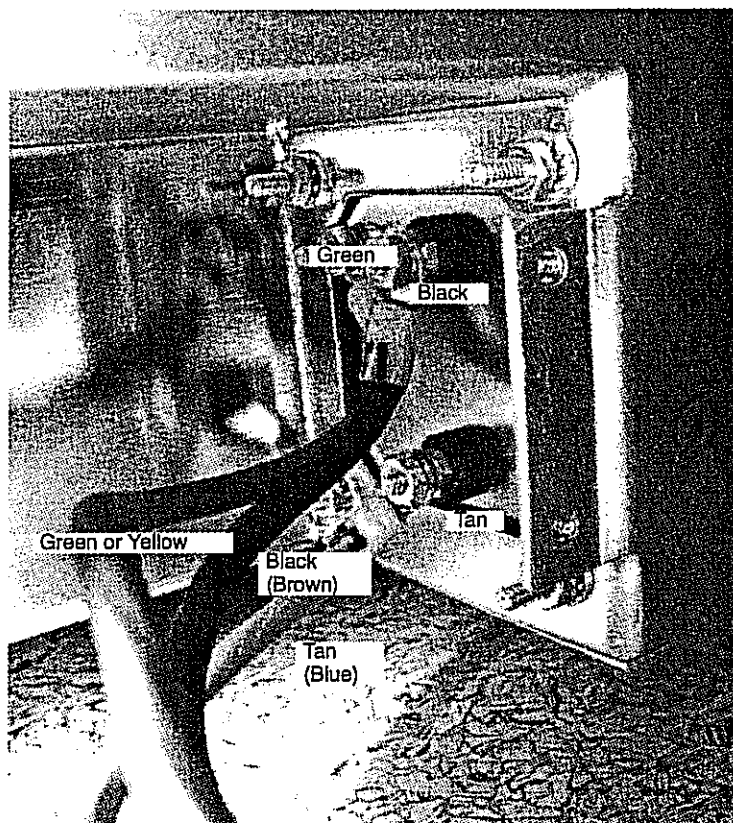

Figure 7-66. AC Power Feed-through Box Terminal Posts
3. Attach the new cable to the capacitor bank's terminal posts as shown in Figure 7-66.